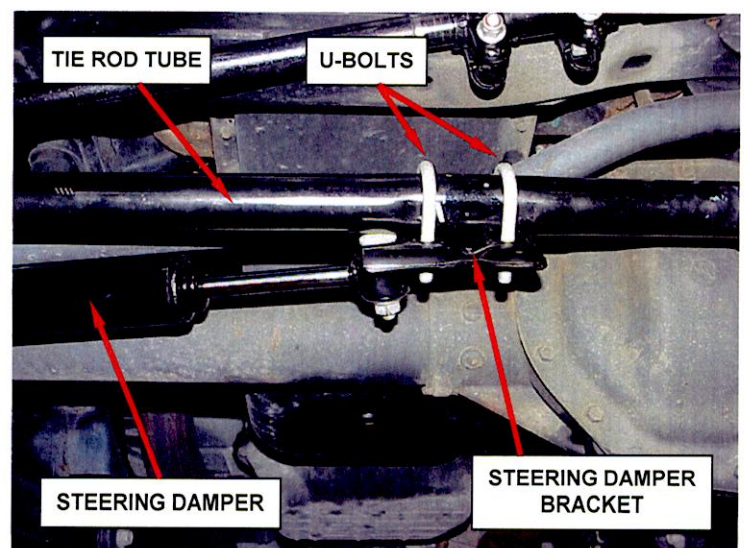

Figure 2 – Steering Linkage
- If the steering damper mounts to the tie rod tube as shown in Figure 2, the vehicle will require further inspection and/or repair by a technician. The vehicle should be assigned to a technician and the technician should continue with Step 2 of this procedure.